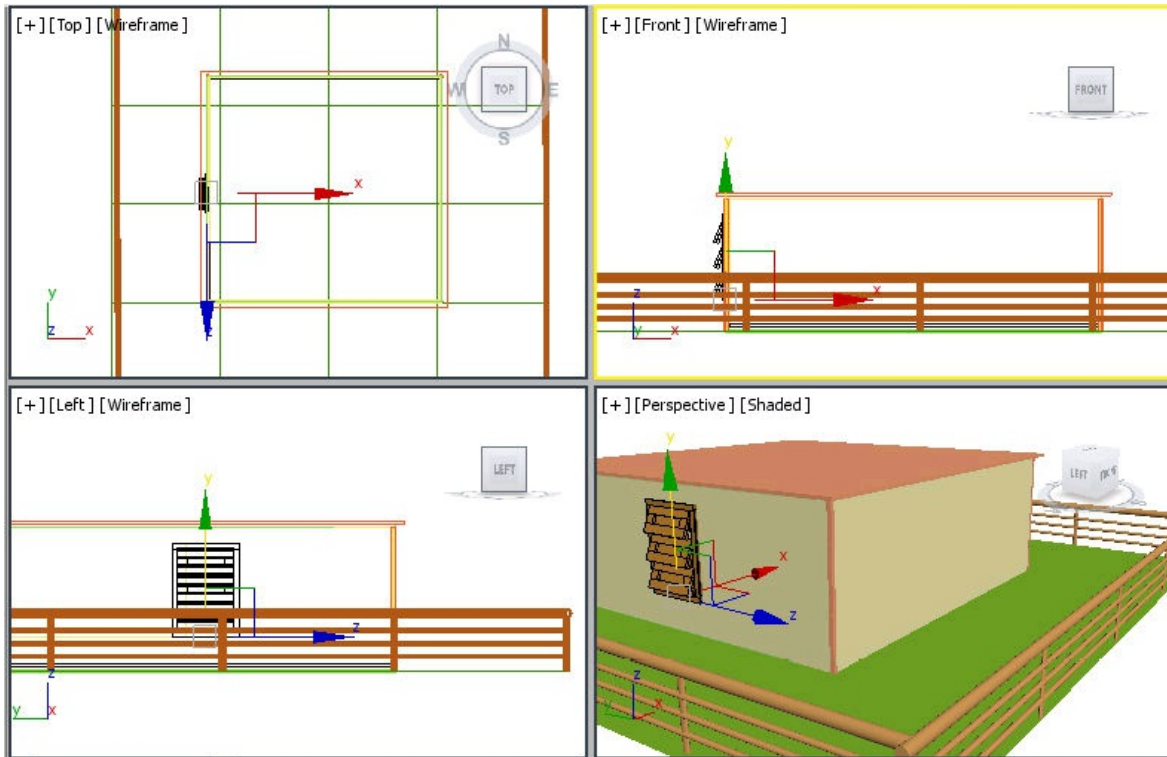

Figure 4-81 The window geometry in viewports after alignment
7. Use the **Select and Move** tool to align *window* with *wall* in the viewports, as shown in Figure 4-81.